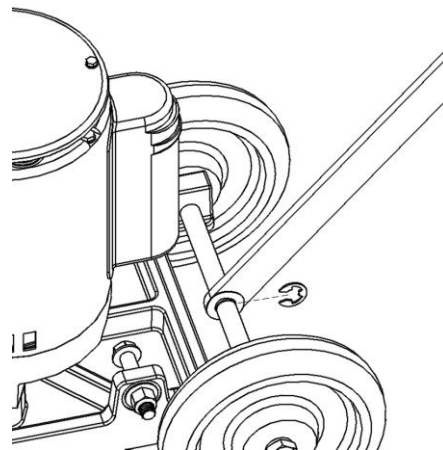

Figure 2.
2. Slide the handle brace to the center of the axle and attach the E clip (a) retaining ring to the axle (Figure 2.). Make sure the wave washer (b) is located between the handle brace and the E clip slot.